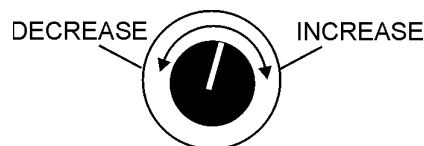

Figure 24. Voltage Regulator Knob 3Ø 200/208V (50/60 Hz), 1Ø 115/120V (50/60Hz) Output Terminal Lug Voltages
3. Turn the voltage regulator knob (Figure 24) clockwise to increase voltage output, turn counterclockwise to decrease voltage output.